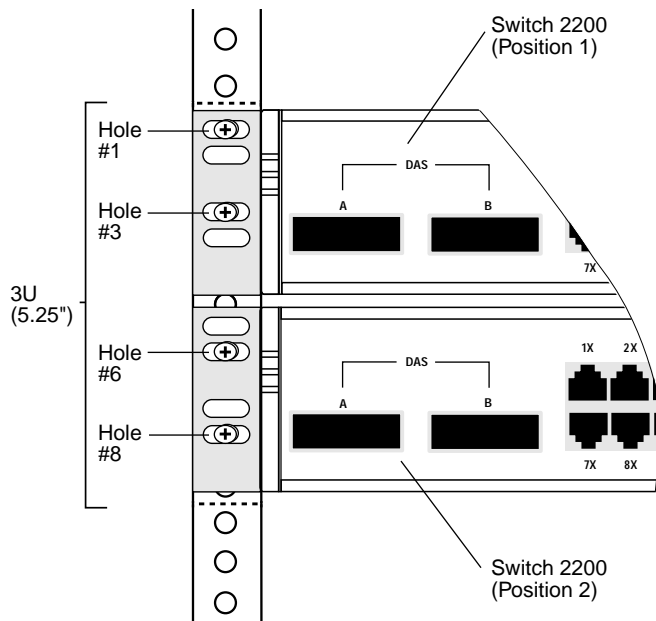

Figure 2-5 Aligning Mounting Bracket and Distribution Rack Holes
- 1 Carefully lift the system into place, aligning the appropriate holes in the mounting brackets with the designated holes in the distribution rack. See Figure 2-5.